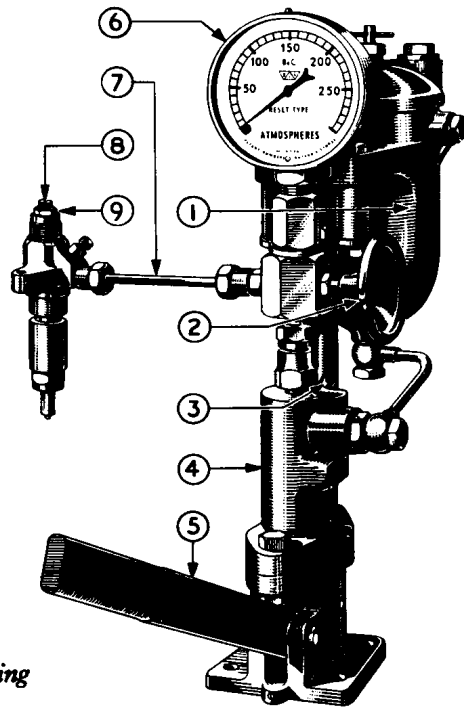

Fig. 9. C.A.V. nozzle setting outfit—hand lever type
The nozzle setting outfit (Fig. 9) is a necessity when it is desired to adjust the opening pressures of nozzles and to inspect their spray qualities. The model described is suitable for "S" type nozzles and holders: that is, for those normally fitted to commercial vehicle, tractor and smaller marine engines, but an adaptor is available for use when it is desired to test the "T," "U" and "V" types as fitted to larger stationary and marine installations. It is built from components of the quality, accuracy and finish which characterise all C.A.V. products, and will prove thoroughly reliable and trouble-free in service. **Note**—The injection pump (4) incorporated in the outfit has been specially designed for its particular function, and is not intended to be used for other purposes.
The prime requirements of a satisfactory nozzle are:—(a) pressure tight seats, (b) freedom from excessive back leakage, (c) satisfactory spray performance or atomisation. Setting Outfit ET.122PA (Fig. 9, enables checks to be made of (a) and (b), but, because of its limitations, can only give a general indication of actual spraying qualities and cannot be relied upon for item (c). This check can, however, be carried out on the rotary type outfit (Fig. 10) as described in para. 8 (a) on page 21. Otherwise the nozzle should be put aside for special attention by a C.A.V. depot or agent.